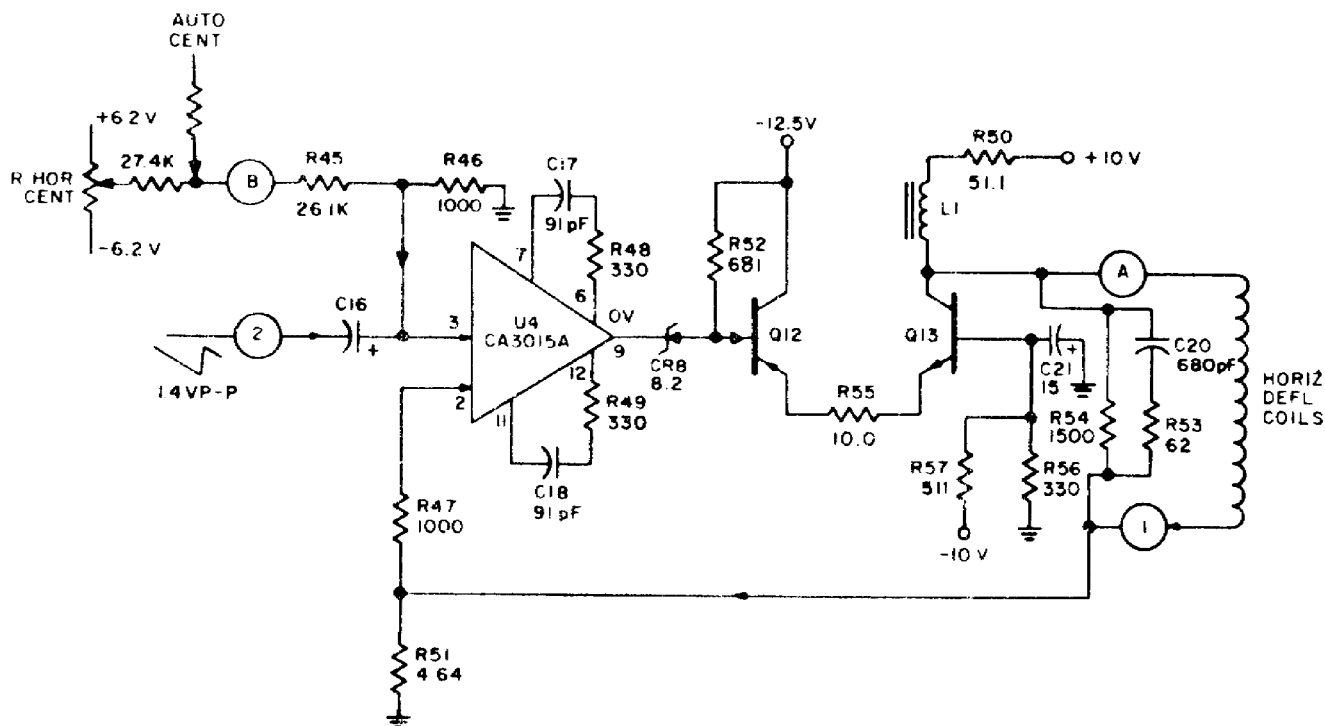

Figure 2-2. Red horizontal deflection amplifier, Sch Dia
NOTE: The rest of the lesson on horizontal deflection will be on the red channel. All channels are basically the same (fig 2-2).
e. The red horizontal deflection amplifier can be easily described by referring to the circuit diagram of the Red horizontal deflection amplifier (fig 2-2).